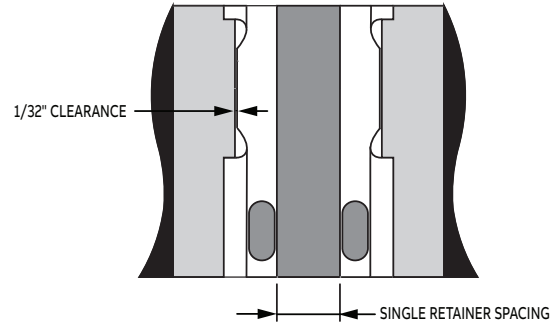

Figure 3 - Pad clearance
- Insert a pad into the retainer slots. Clamp down the pad while ensuring a 1/32" clearance referencing Figure 3. Place a new retainer on the opposite side from the first retainer. Secure the new retainer by plug welding through a minimum of 3 holes.
- Place the two single retainers back-to-back in the gap between the first and last pads referencing Figure 3. Repeat Step 3. The space between the single retainers will vary slightly according to the actual pulley diameter. However, the gap should not exceed the limits found in the pre-installation instructions. Otherwise, non-standard installation is required.